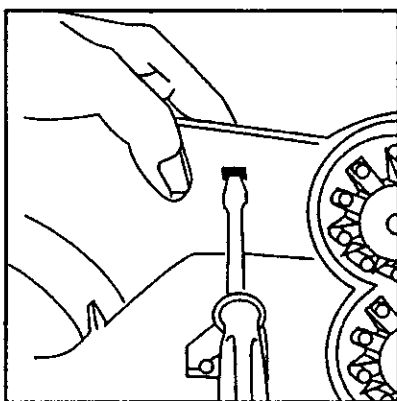

Fig. 18
1. Remove (1) screw located on pump doghouse.
2. Release tab with flat blade screwdriver from bottom of unit (Fig. 18).
To remove brush block assembly simply squeeze block at tabs shown in Fig. 18 and slip brush block assembly out of position. To reinstall brush block assembly align slides on sides of block with slots in main body and snap brush block assembly back into position.